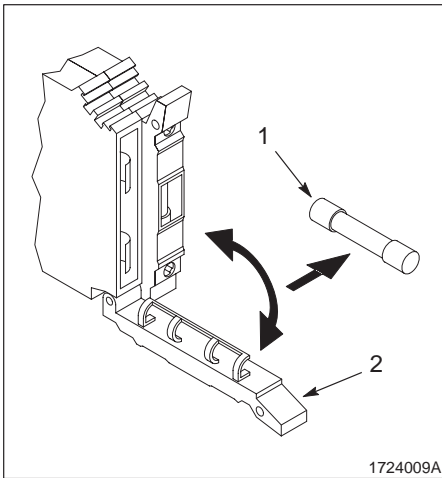

Fig. 11 Fuse replacement
2. See Figure 11. Carefully pull on the fuse holder doors (2). Replace the fuses (1).
3. Push on fuse holder doors (2) to close.